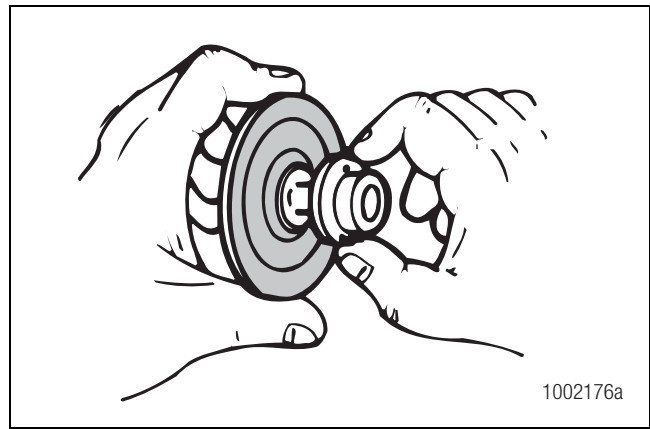

Figure 3.16
9. Install washer on piston assembly. Figure 3.16.